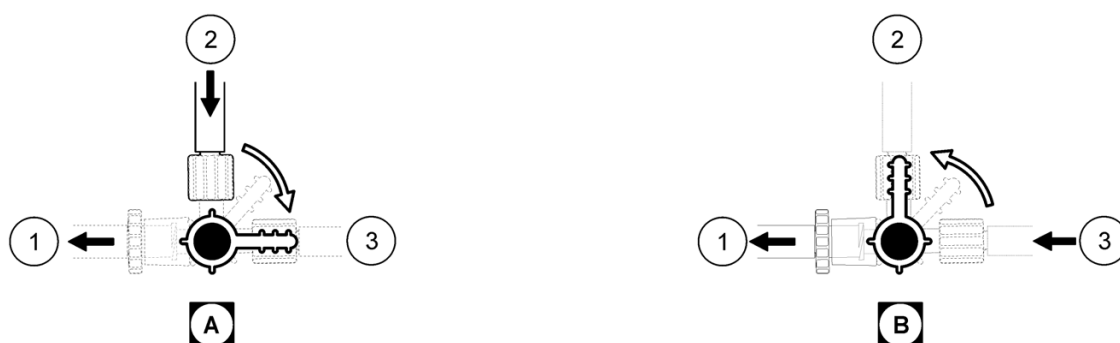

Figure 4 Valve position
10. Restore power to the analyzer. Make sure the 3-way luer lock valve is open so that process stream water is flowing into the analyzer. Refer to Figure 4 on page 6.
11. If no flow was observed in step 9, turn the 3-way valve back to the B position and repeat steps 4-10. Refer to Figure 4.
13. Turn the lever on the 3-way valve to position **B** to allow process water to be sampled. Refer to Figure 4 on page 6.